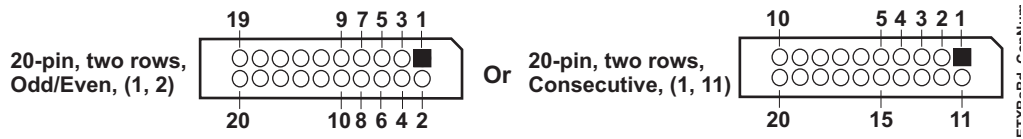

Figure 2-6. Connector/Header Pin-Out Identification
**NOTE** Ampro uses an identification method in Chapters 2 & 3 to ease connector pin identification. For example, a 20-pin header with two rows of pins, using odd/even numbering, where pin 2 is directly across and adjacent to pin 1, is noted in this way: 20-pin, two rows, odd/even (1, 2). Alternately, a 20-pin connector using consecutive numbering, where pin 11 is directly across and adjacent to pin 1, is noted in this way: 20-pin, two rows, consecutive (1, 11). The second number in the parenthesis is always directly across from and adjacent to pin-1, with a few exceptions. See Figure 2-6.